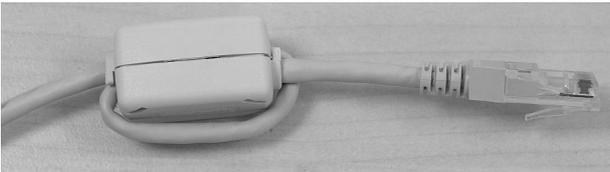

Figure 6-8. Correctly installed ferrite core
- Close the ferrite core completely (Figure 6-8).